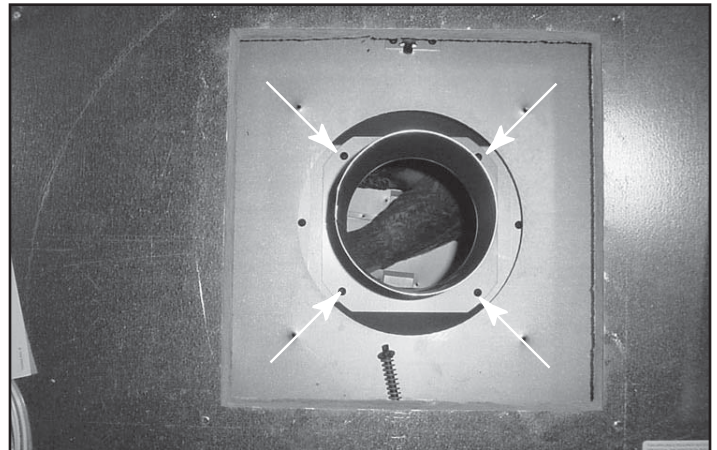

Figure 7.3 Inner Collar - Remove Four Screws
- Remove four screws holding inner collar to appliance top. See Figure 7.3. Remove inner collar.